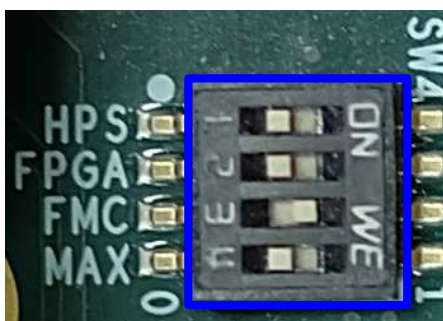

Figure 1-6 Enable FPGA and MAX JTAG on CycloneV SoC and ArriaV SoC board
- For CycloneV SX SoC or ArriaV ST SoC board, set JTAG enable at SW4 as shown in Figure 1-6 to enable FPGA and MAX in JTAG chain.